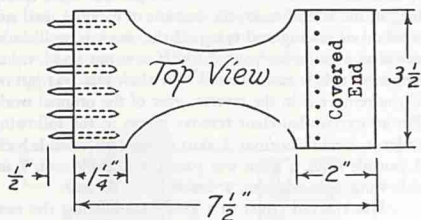

Fig. 3—Homemade webbing stretcher.
2. Webbing stretcher—buy or make (optional). Make from  $\frac{1}{2}$ " hard wood as shown in Fig. 3. Drive ten-penny nails in one end. Cut off heads and file to tapering points. Cover the other end with felt, rubber, or leather.